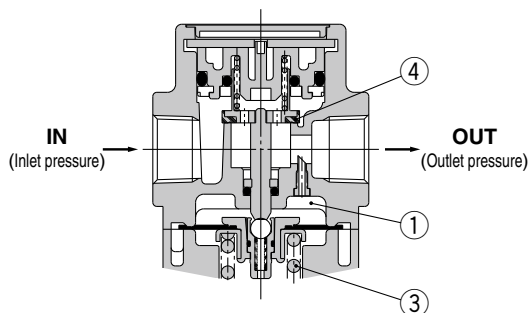

Figure 1 Normal
When the inlet pressure is higher than the regulating pressure, the check valve ② closes and operates as a normal regulator (Figure 1). When the inlet pressure is shut off and released, the check valve ② opens and the pressure in the diaphragm chamber ① is released into the inlet side (Figure 2). This lowers the pressure in the diaphragm chamber ① and the force generated by the spring ③ lifts the diaphragm. The valve ④ opens through the stem, and the outlet pressure is released to the inlet side (Figure 2).